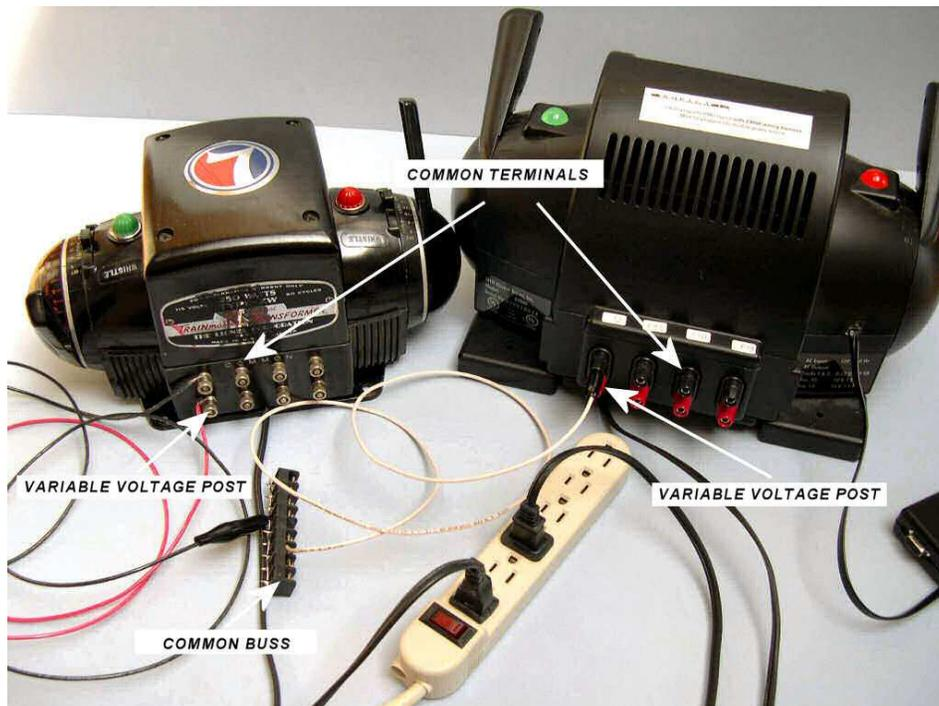

Figure 1 – ZW and Z400 connected to common buss
1. For phasing, start with two transformers and unplug 120V power on all others. Decide which transformer you will use as the MASTER. The other will be the SECONDARY. In Figure 1, the Z4000 on the right will be used as the MASTER and the postwar ZW on the left will be the SECONDARY.
2. Before phasing, connect ALL commons on the transformers to be phased to one buss bar (terminal strip with all screws common) as shown in Figure 1.